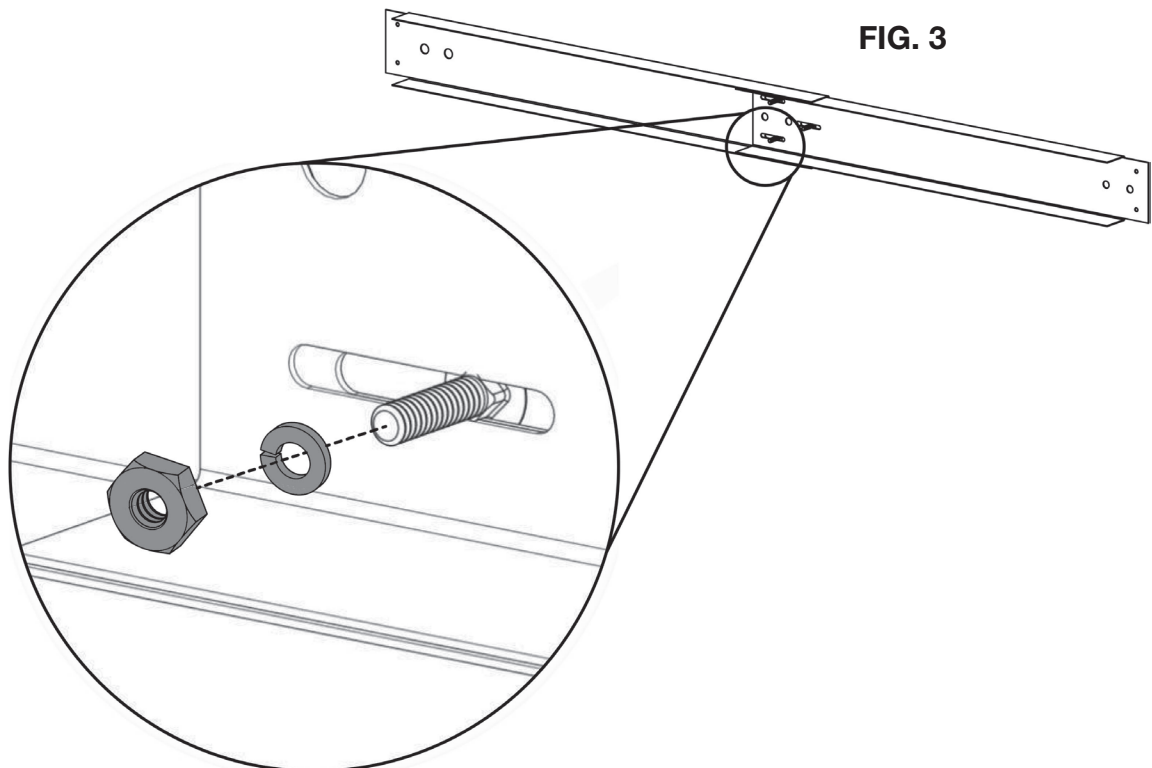

FIG. 3
3. Secure the 3 nuts (Type 1) and the 3 washers (Type 3) to the back of the bolts (FIG. 3).